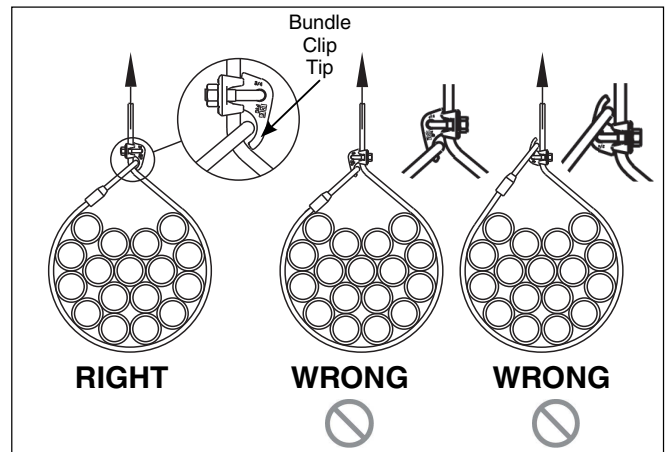

Figure 3
Certain conditions (such as extreme variation of the choke size) or improper installation may cause the eye of the choke hitch to disengage from the Bundle Clip and allow the eye to seat away from or below the Bundle Clip (see Figure 3). If this occurs, the Bundle Clip must be removed and installed in the proper position.
- Do not use the Bundle Clip to form the choke hitch (See Figure 3).
3. After initial loading, install the Bundle Clip in proper orientation, with curved portion (Bundle Clip tip) over the eye of the sling. Insert U-bolt through the Bundle Clip. Properly position the clip base over the U-bolt and install nuts (See Figure 3). Use torque wrench to tighten evenly, alternating from one nut to the other until the curved portion bottoms out on the clip base, and the recommended torque is reached (See Table 1).